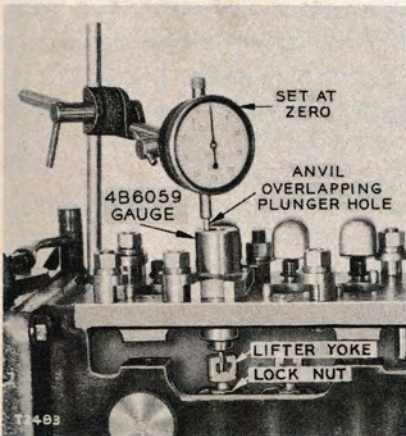

FIGURE 34
2. The lifters may also be set by using a dial indicator and the 4B6059 Gauge (fig. 34 and 35).
Install the 4B6059 Gauge. Set up the dial indicator so that the anvil is overlapping the plunger hole of the 4B6059 Gauge (fig. 34).